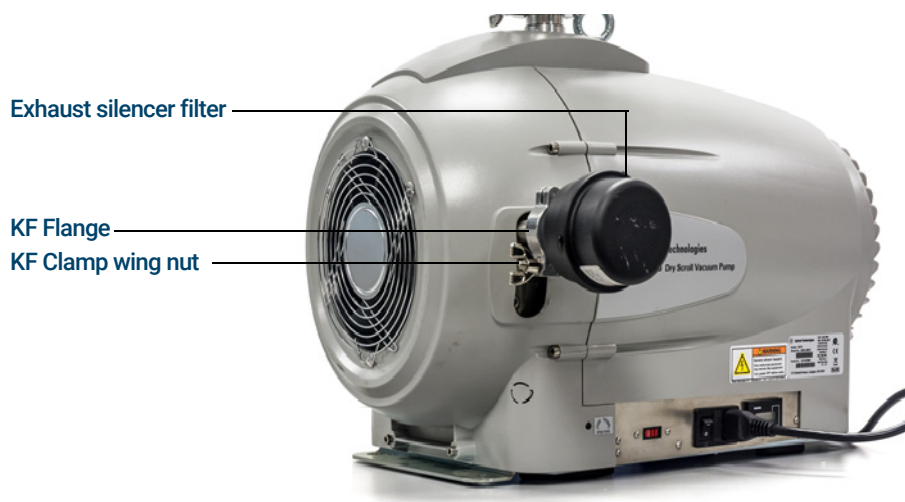

Figure 19. Foreline pump exhaust silencer filter
- 1 Unscrew the wing nut on the clamp. (See **Figure 19** on page 104.)
- 1 Place the O-ring against the IDP-15 exhaust. (See **Figure 19** on page 104.)